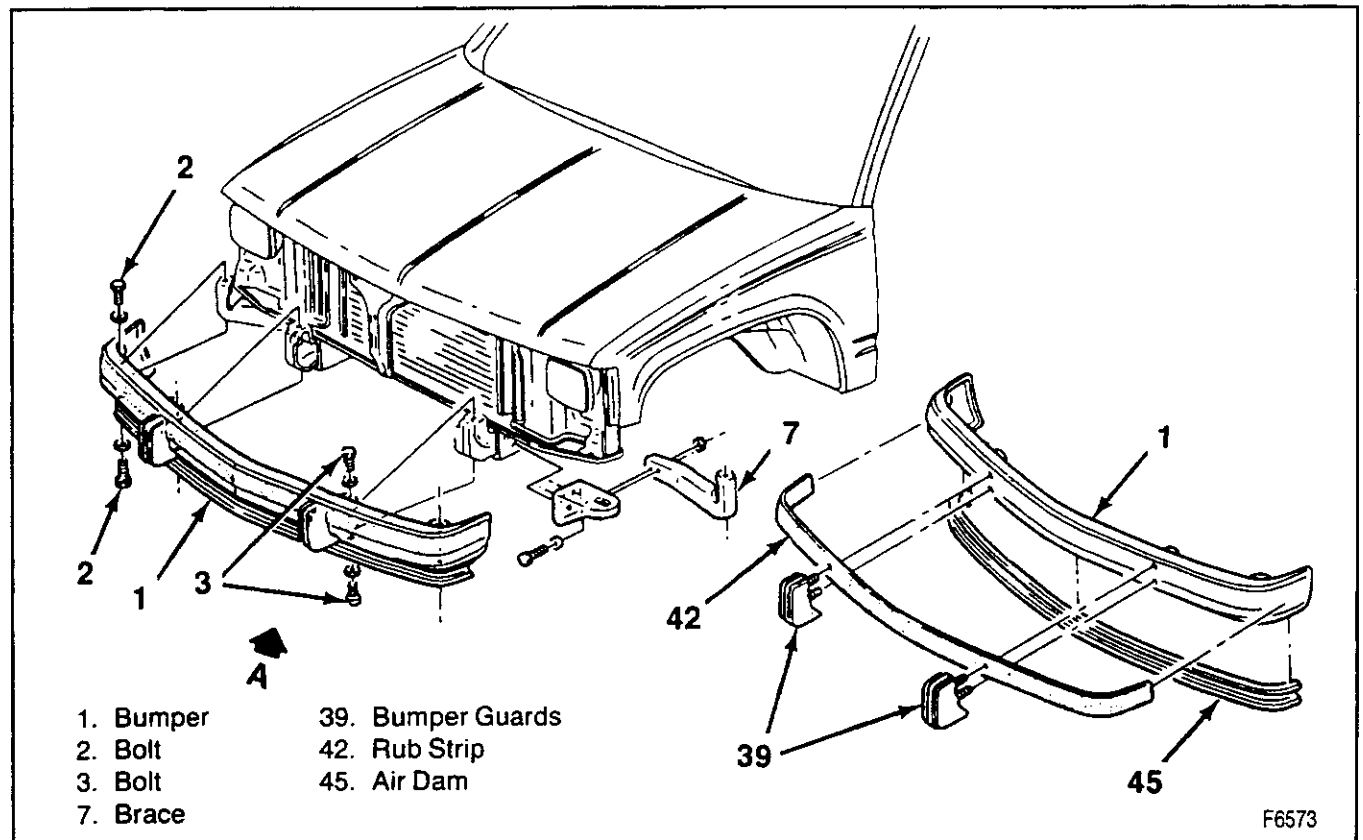

Figure 5—Bumper Assembly Components
4. Guards from the bumper (if equipped) (figure 5).